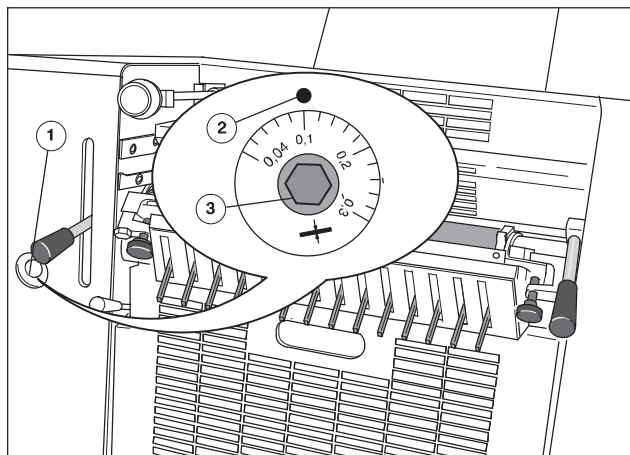

Fig. 42 Blanket cylinder - impression cylinder squeeze
1. Adjust the **thickness of printing material** with the socket wrench on the delivery side (Fig. 42/1) of the PU.
The adjusting screw (Fig. 42/3) must be adjusted with the socket wrench to a mark (Fig. 42/2).